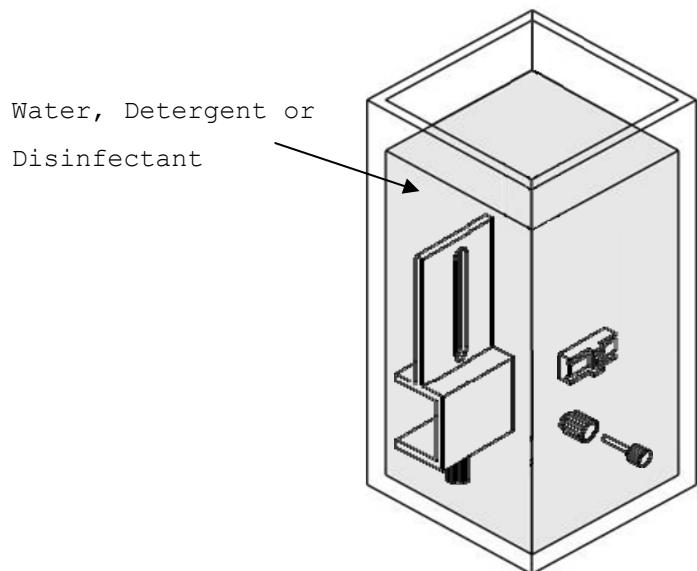

Fig.6 Immersion of the puncture guide fixture
- 2) Dismantle the Puncture Guide Fixture (as shown in Fig.6). And immerse parts of the Puncture Guide Fixture more than 30 minutes in the detergent solution completely.
Immerse the puncture guide fixture in a sterilant/high level disinfectant (Refer to 10. Supplier's List) following the manufacturer's directions regarding preparation and soak time (as shown in Fig.6). The contact condition of recommended solutions is given in Table 3.
Use sterile technique when removing the puncture guide fixture from high level disinfectant solution and rinse it thoroughly by soaking in sterile water for more than 10 minutes (as shown in Fig.6). After rinsing the puncture guide fixture, air-dry it completely.